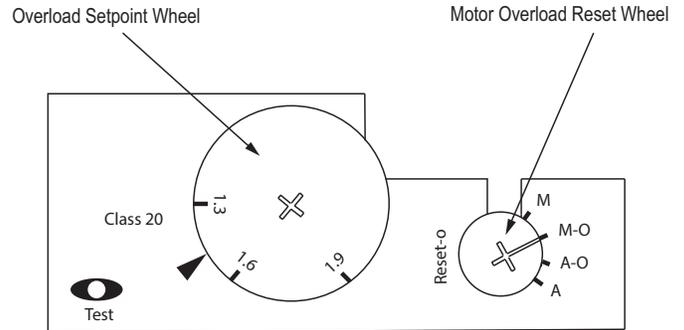

Fig. 30 — Motor Starter Setting
1. On the starter, adjust the Motor Overload to match the **FLA Rating** of the installed motor by turning the Overload Setpoint wheel to the appropriate value. See Fig. 30. Evaporator and condenser motor FLA ratings are listed in Table 12.